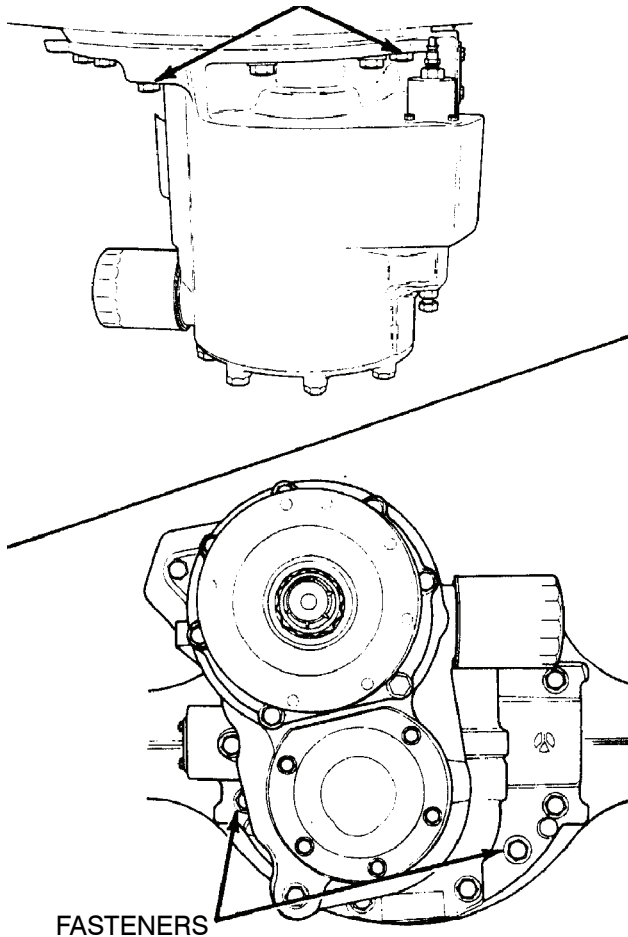

Figure 104.
- (8) Install the nuts and the washers or the capscrews and the washers in the four corner locations around the carrier and the axle housing. Tighten the fasteners by hand. DO NOT TIGHTEN TO THE SPECIFIED TORQUE. Figure 104.
- (9) Carefully push the carrier into position. Tighten the four fasteners two or three turns each in a pattern opposite each other. Figure 104.
- (10) Repeat step 9 until the four fasteners are torqued to 150–230 ft–lbs (203–312 N·m).
- (11) Install the other fasteners and the washers that hold the carrier in the axle housing.